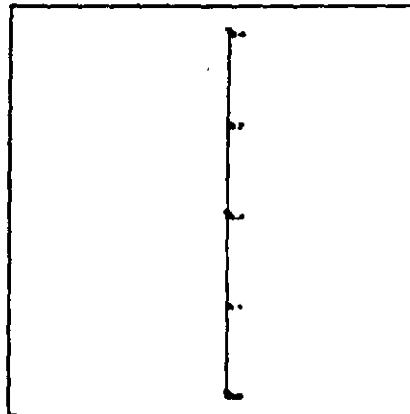
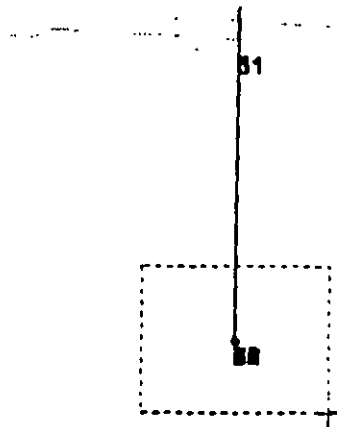

Figure 3.31
Figure 3.32
3. Select beams 1-4 and 7-10 by rotating the structure to its side position (Figure 3.31) You can use the  icon in the toolbar to accomplish this. Use the rubber band window to select the bottom beams by just creating a box around the bottom node (Figure 3.32).